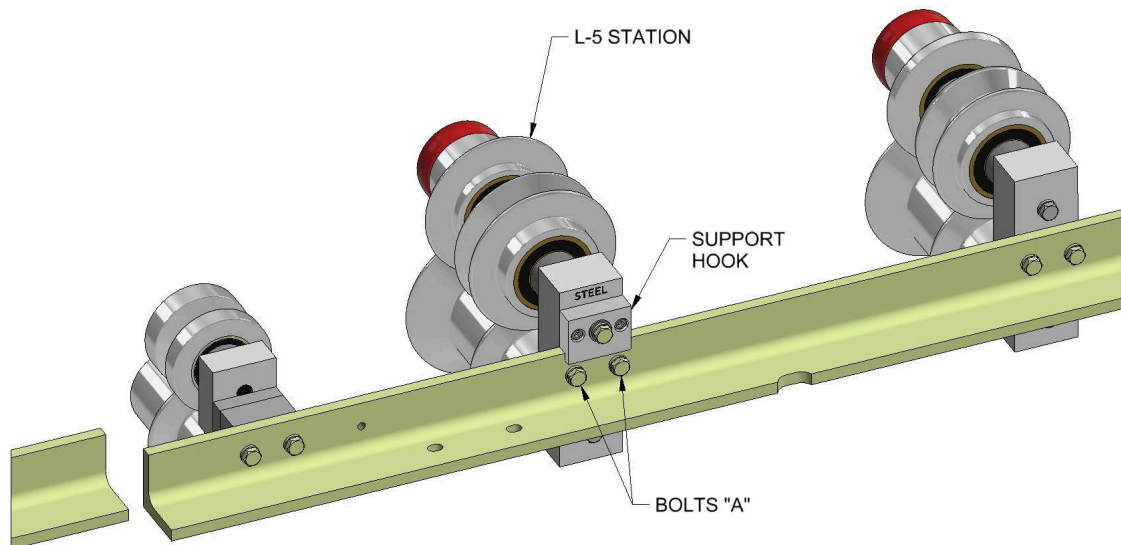

Figure 45: L-5 Station
3. Referring to Figure 45, remove the “A” bolts securing the L-5 Station.